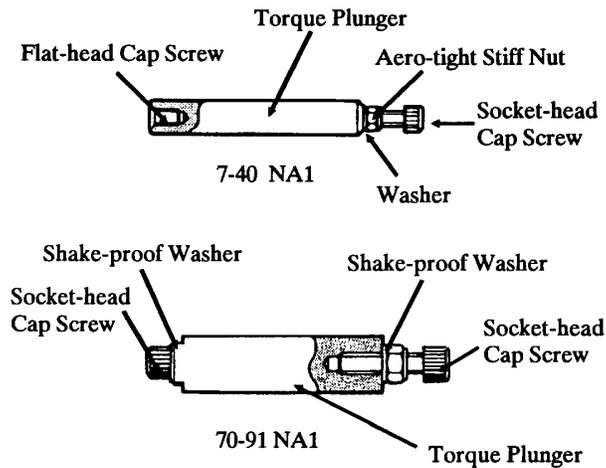

Figure 13-10 Torque Shaft
5. Remove the torque shaft from the actuator housing. Do not disturb the torque shaft length adjustment. (Refer to Figure 13-10)